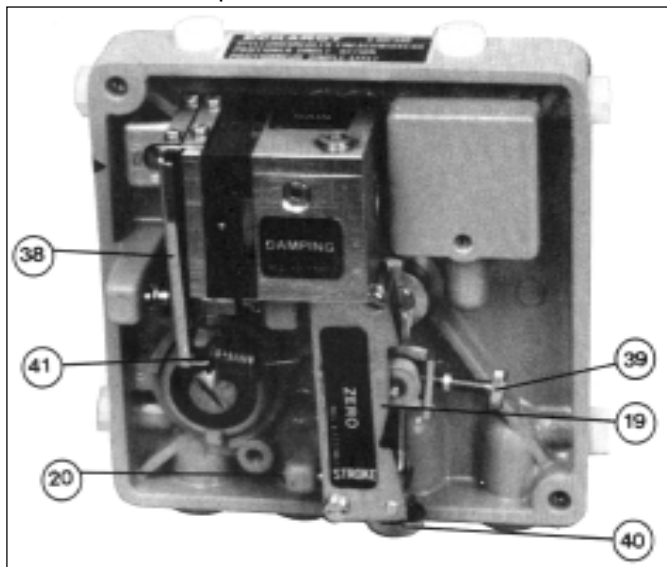

Figure 17
2. To remove/change the range spring (41) see Figure 17; hold stroke factor lever (19) against the travel stop pin (20) and simultaneously hold the zero thumbscrew (39). Using needle nose pliers, remove the end of the range spring (41) hooked to the flapper lever (38); then remove the opposite end. Reverse the procedure with the new/different range spring (41). Always make sure that the range spring’s (41) coils are closest to the flapper lever (38).
3. After removal/change of the range spring (41), recalibration is required. See Section V.
A. ZERO and STROKE Setting: (See Figure 17)